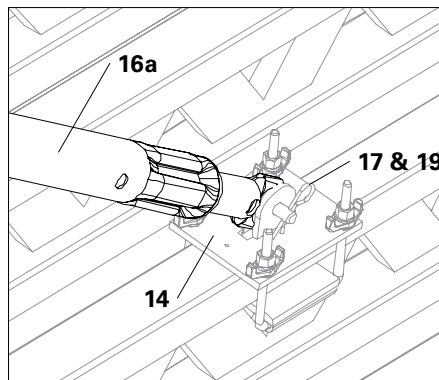

Fig. B5.02a
1. Secure push-pull prop (16a) in the Girder Headpiece GT 24 (14) using Bolts \varnothing 16 x 42 (17) and Cotter Pins 4/1 (19). (Fig. B5.02a)